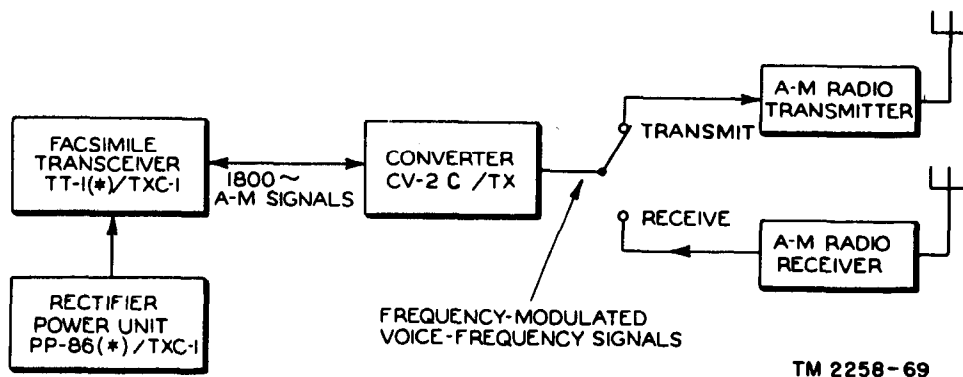

Figure 27. Am-SCFM transmission and reception of facsimile signals, block diagram.
59. Block Diagram (fig. 27)
Converter CV-2C/TX is an electronic device which is used between the facsimile transceiver and the radio circuit in transmission and reception of facsimile signals by the subcarrier frequency modulation (SCFM) method. Figure 27 is a block diagram that shows Converter CV-2C/TX connected in an am SCFM application. When transmitting, the converter changes 1,800-cps am signals from the facsimile transceiver into frequency-modulated voice-frequency signals which modulate a conventional radiotelephone transmitter. The transmitted signal consists of a rf carrier on which is superimposed a constant level of modulation. The frequency of the af modulation is varied in accordance with the facsimile signals. When receiving, the radio signal is picked up by a conventional am communication receiver. The receiver output, which is fed into the converter, consists of voice-frequency signals. The converter changes these signals into am signals, which are fed to the receiving facsimile transceiver. This type of circuit is less affected by fading and interference than transmissions using conventional am. Complete information on Converter CV-2C/TX is contained in TM 11-2252A.